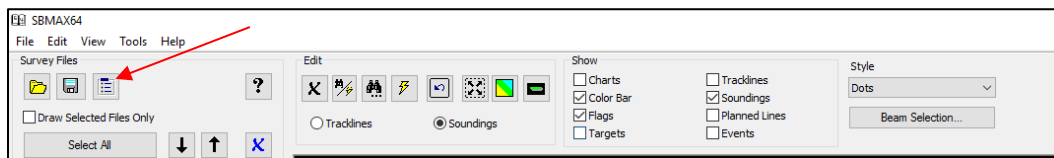
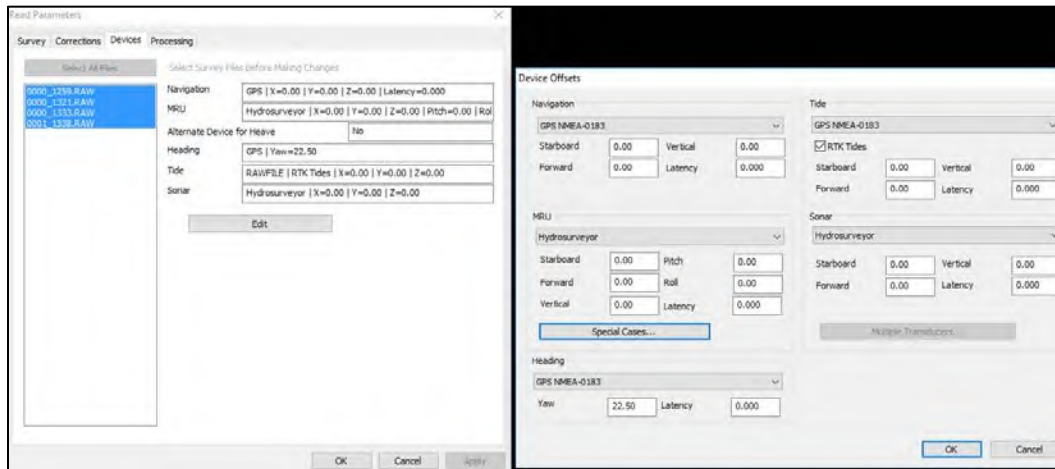
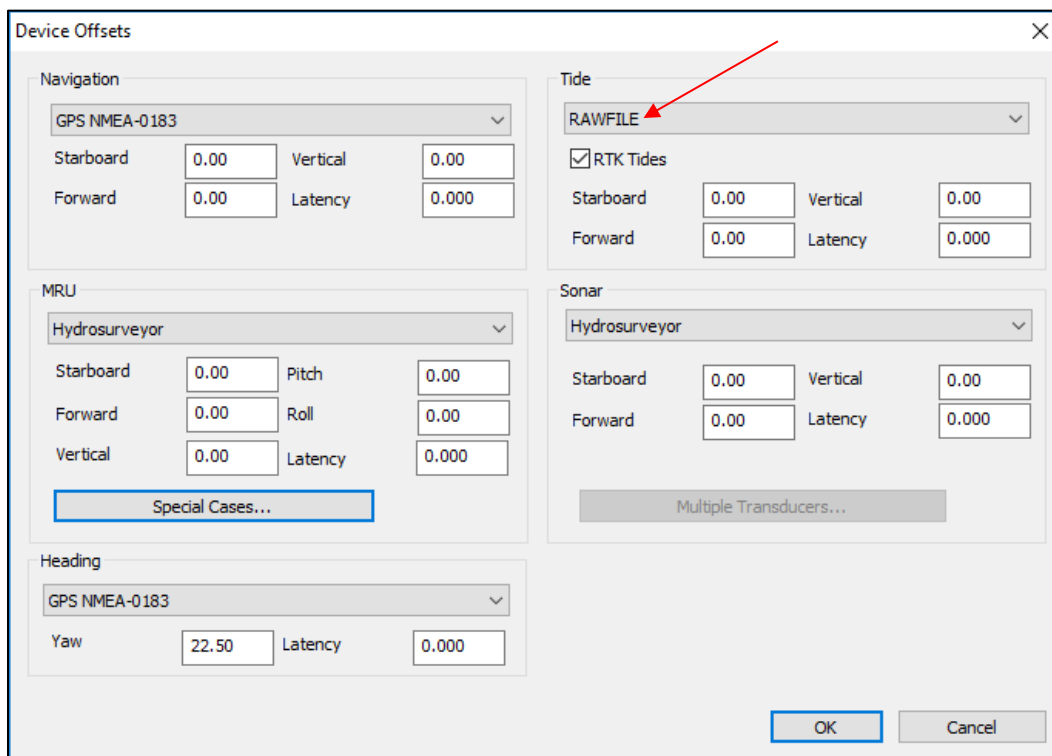

Figure 15.—Read Parameters icon (blue bullet list) in SBMAX64 main menu window.
Figure 18.—Device Offsets popup window via the Devices tab in the Read Parameters window.
Figure 20.—RAWFILE selection under Tide in the Device Offsets popup window.
In the SBMAX64 main menu window, click on the blue bullet list icon under Survey Files to access the Read Parameters window (figure 15).
3. Under the **Devices** tab in the Read Parameters window, click “Edit.” In the Device Offsets popup window, set Navigation to the GPS device and both MRU and Sonar to the echosounder. Under Heading, input in combination of the SonTek M9 rotation and magnetic declination for the Yaw offset as discussed in the “SonTek M9 Device Setup” subsection previous to this. Under Tide, verify “RTK Tides” is checked. Click “OK” (figure 18).
At this juncture, go back into “Read Parameters” (figure 15). Under the Devices tab in the Read Parameters window, click “Edit” (figure 18). In the Device Offsets popup window, under Tide, the selection should now be “RAWFILE” and the “RTK Tides” box is still checked. Click “OK” (figure 20).